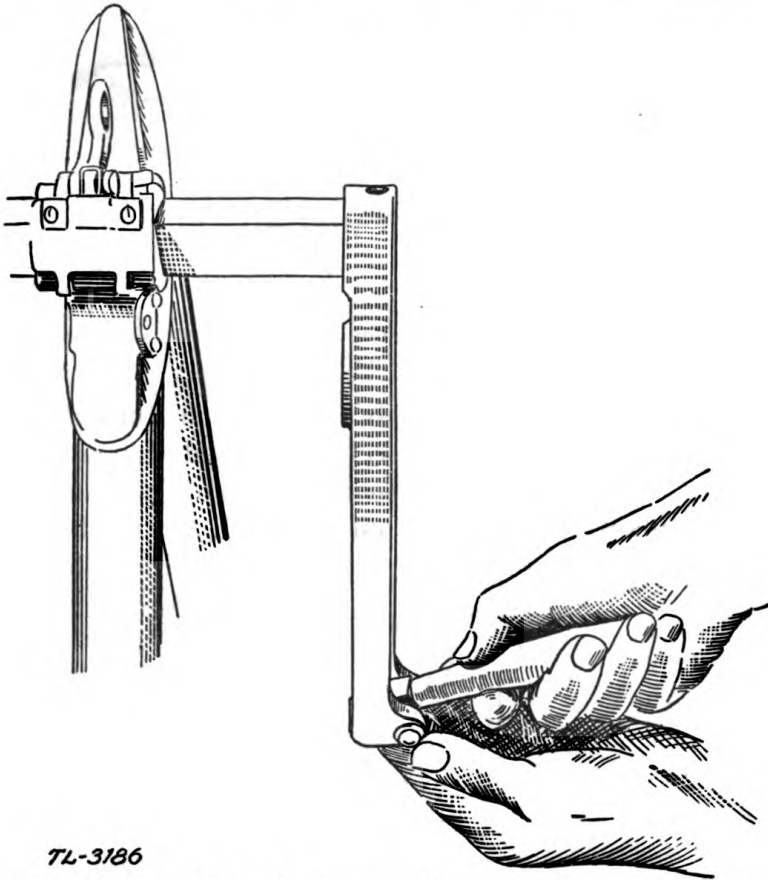

FIGURE 7.—To fold back handle of crank GC-4-A, depress small button on side.
4. Crank GC-4-A.—*a. General.*—The crank consists of an arm made of steel and a folding handle made of aluminum. It has two square holes to permit a choice of crank leverage. To bring the handle into position, pick it out of the arm and it will lock itself open automatically. To fold it back, press in the small button on the end of the arm to release the holding catch, as illustrated in figure 7.